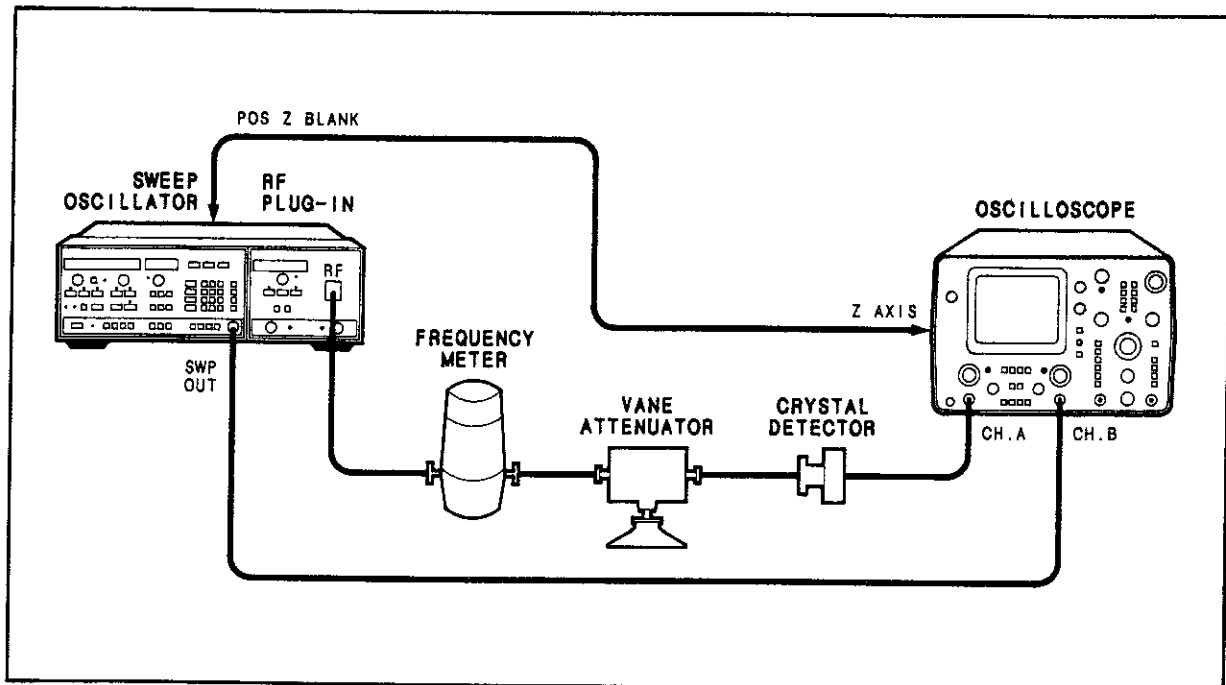

Figure 4-2. Swept Frequency Accuracy Test Setup
7. Connect the equipment as shown in Figure 4-2. Set the vane attenuator to 15 dB. Set the oscilloscope to A vs B mode; set channel A to 50 mV/DIV and channel B to 1V/DIV. Press 8350A/B [INSTR PRESET] [SWEEP TIME] [1] [0] [5] [msec].